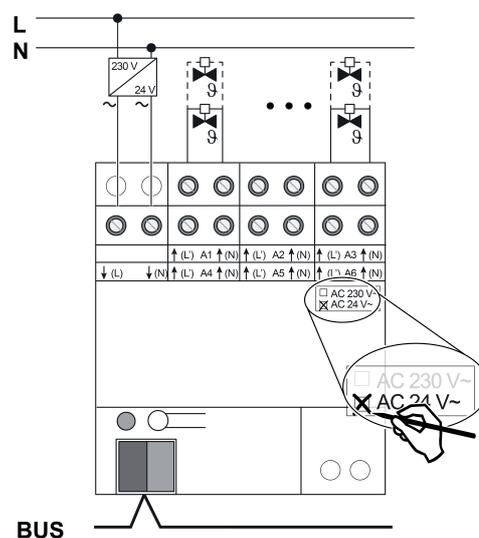

Figure 3: Connection of actuators 24 V
- Connect the AC 24 V valve drives according to the connection diagram (figure 3).
- Connect the supply for the valve drives to the terminals **↓(L)** and **↓(N)** (1).